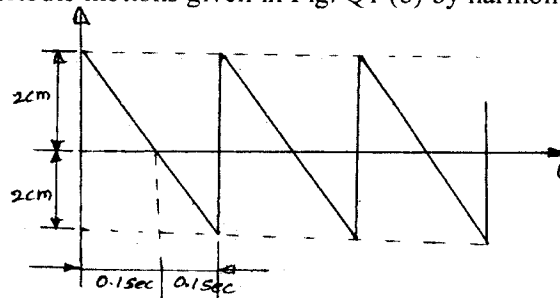

Fig. Q1(b)
- b. Represent the periodic motions given in Fig. Q1 (b) by harmonic series. (14 Marks)